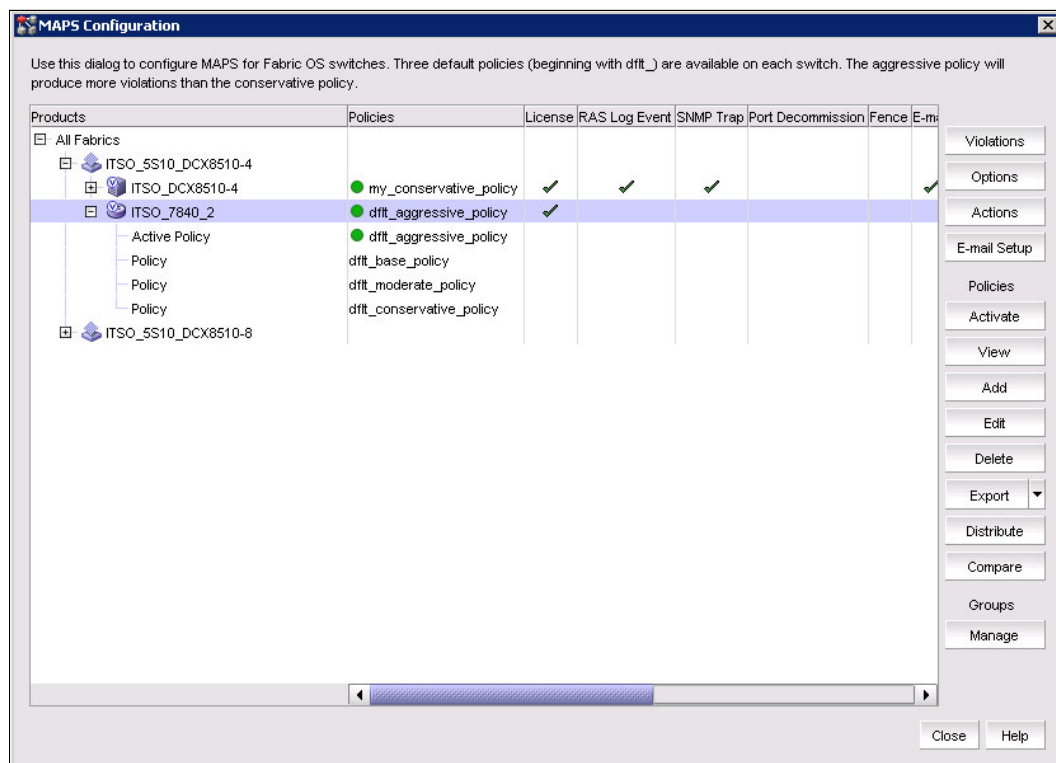

Figure 7-6 Shows the MAPS Configuration window
2. Select **Monitor** → **Fabric Vision** → **MAPS** → **Configure** and the MAPS Configuration window is displayed (Figure 7-6).